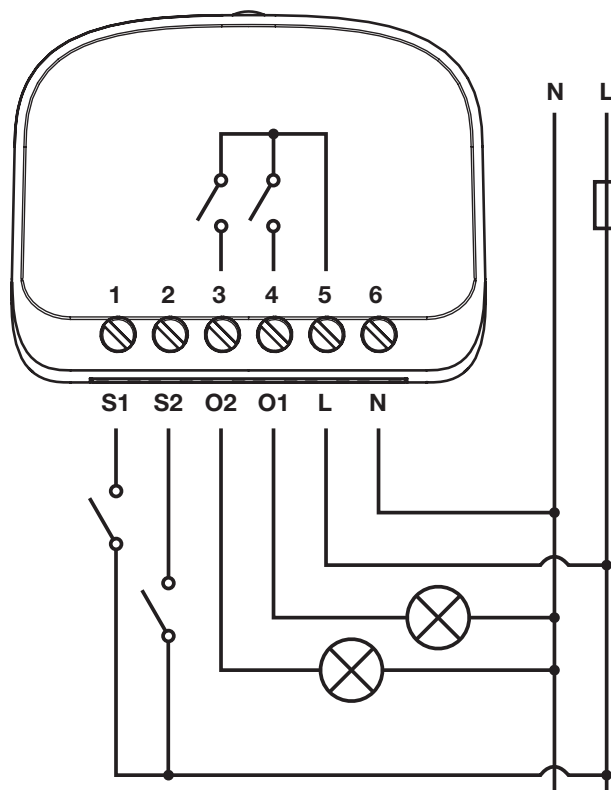

Figure 2: Wiring diagram of the BiDi-Switch
If required, external switches can be connected to terminals S1 and S2, which can control the outputs directly. The switches are connected between Live (L) and terminals S1 and S2 as shown in Figure 2. The switch connected to S1 is responsible for O1 control, and the switch connected to S2 is responsible for O2 control. Toggle or momentary switches can be connected to S1 and S2 terminals, but the operation of the control unit might need to be adjusted for the connected type of switch, to check and change the type of switch see table A11.